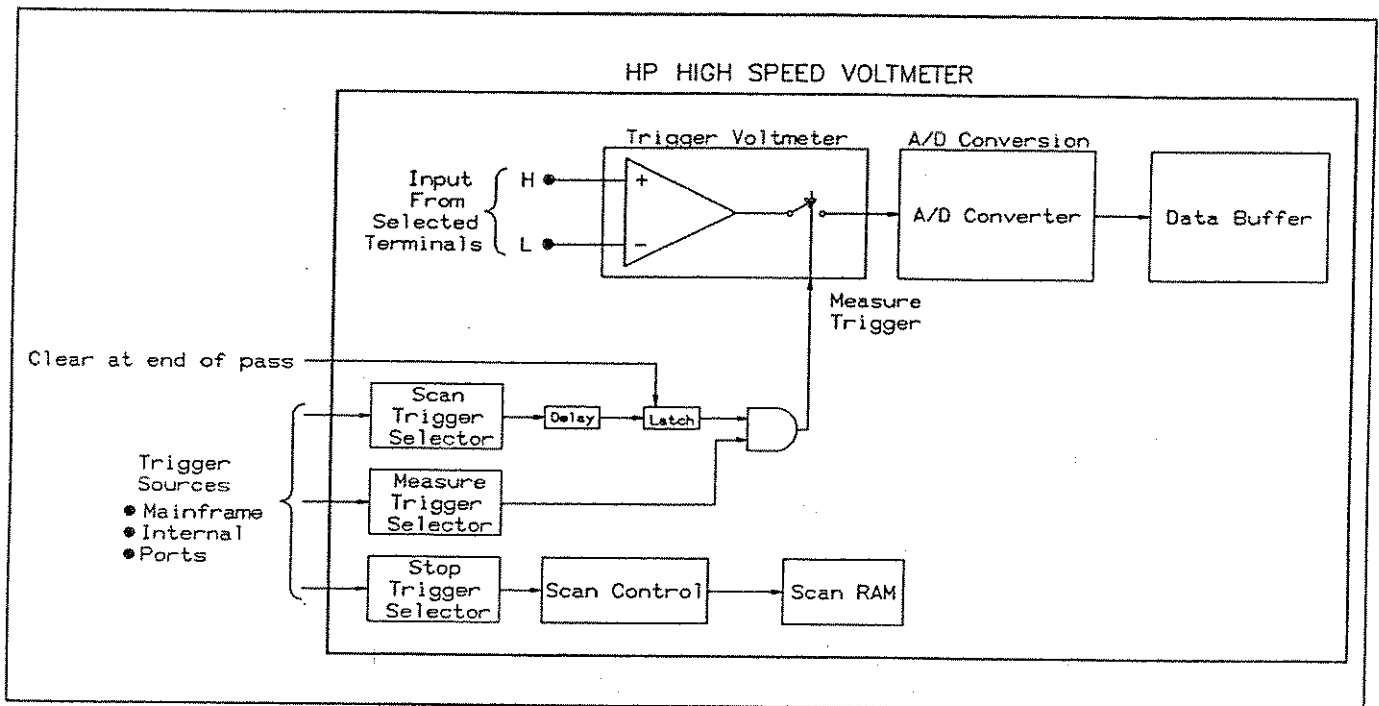

Figure 5-10. Voltmeter Trigger Operation
**Voltmeter Trigger Operation** Figure 5-10 shows simplified voltmeter trigger operation. The measure trigger triggers the voltmeter to make a measurement. Each measurement is then converted and sent to the voltmeter data buffer. There are three main sources for the scan, measure, and stop trigger: mainframe backplane, voltmeter internal, and voltmeter port triggering. These sources are discussed in the next subsection “Voltmeter Trigger Sources”.